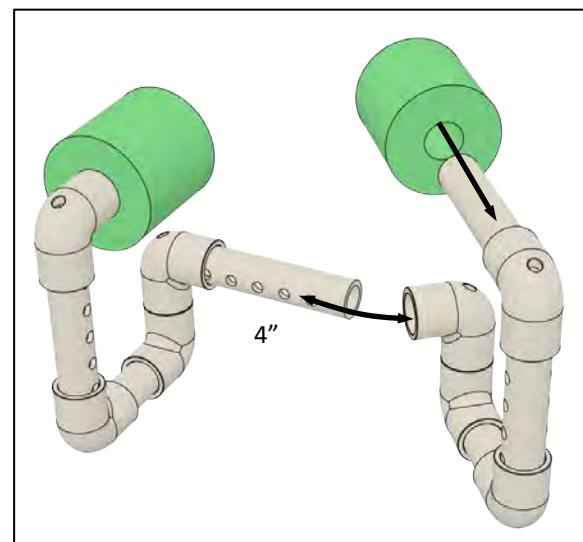

Figure 27
- Connect the two frame side sections using a 4" long thruster mounting pipe and slide 2" long floats on the upper pipes. (Figure 27)